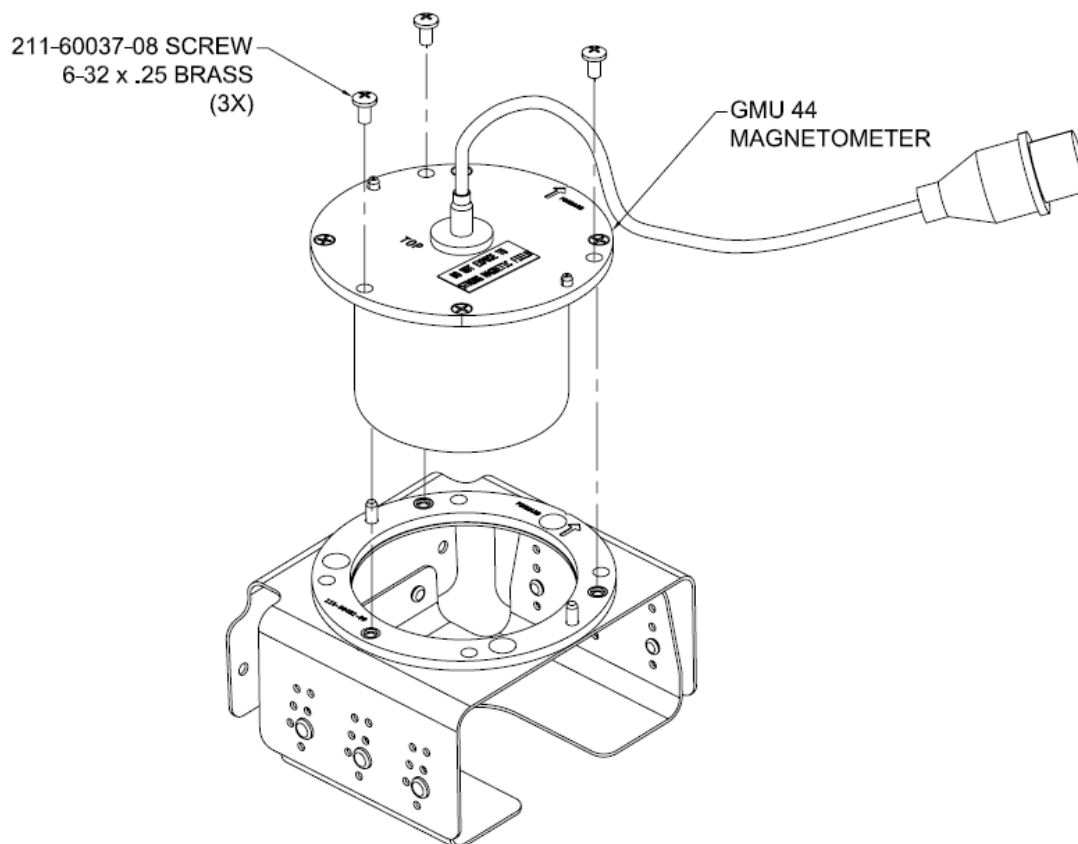

Figure A-13 Secure GMU 22 to the Mounting Bracket Assembly
8. Attach the GMU 22 to the GMU 22 Mounting Bracket as illustrated in Figure A-13 using brass screws.